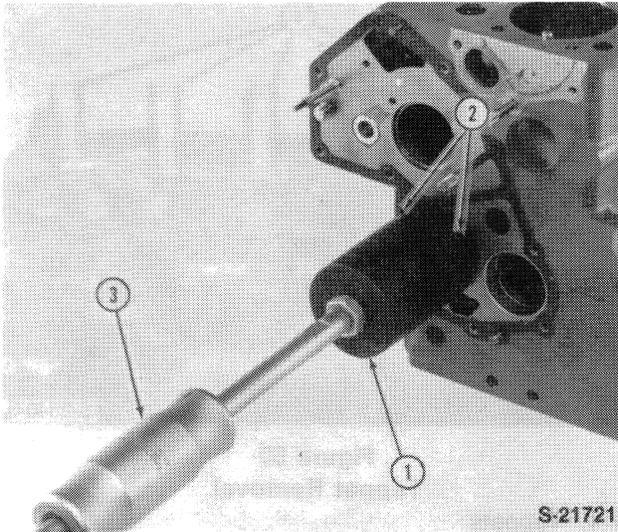

Figure 45
3. Using a slide hammer as shown, Figure 45, remove the port block and shaft assembly.